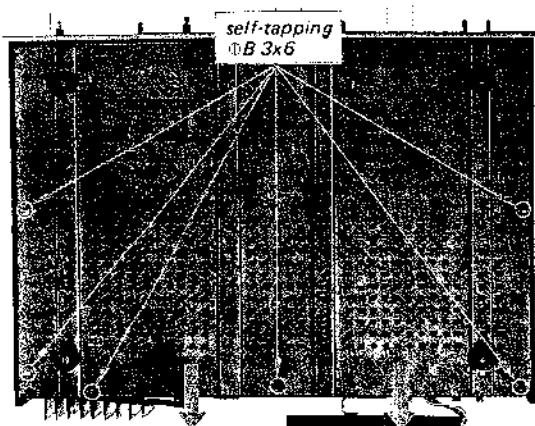

Fig. 2-2. Bottom plate removal
2. Remove the six self-tapping screws ($\oplus B 3 \times 6$) at the bottom of the receiver and pull the bottom plate in the direction indicated by the arrow in Fig. 2-2.